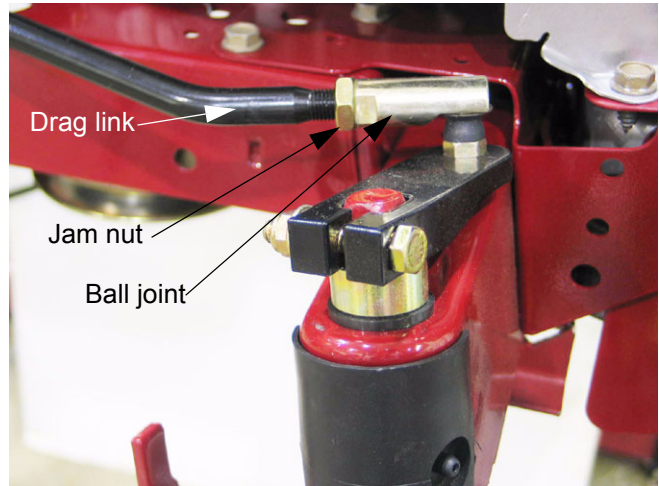

Figure 14.18
- 14.18. To **adjust the drag link**, it is necessary to loosen the jam nut that locks the ball joint in position. Hold the ball joint using a 1/2" wrench, and loosen the nut using an 11/16" wrench. See Figure 14.18.